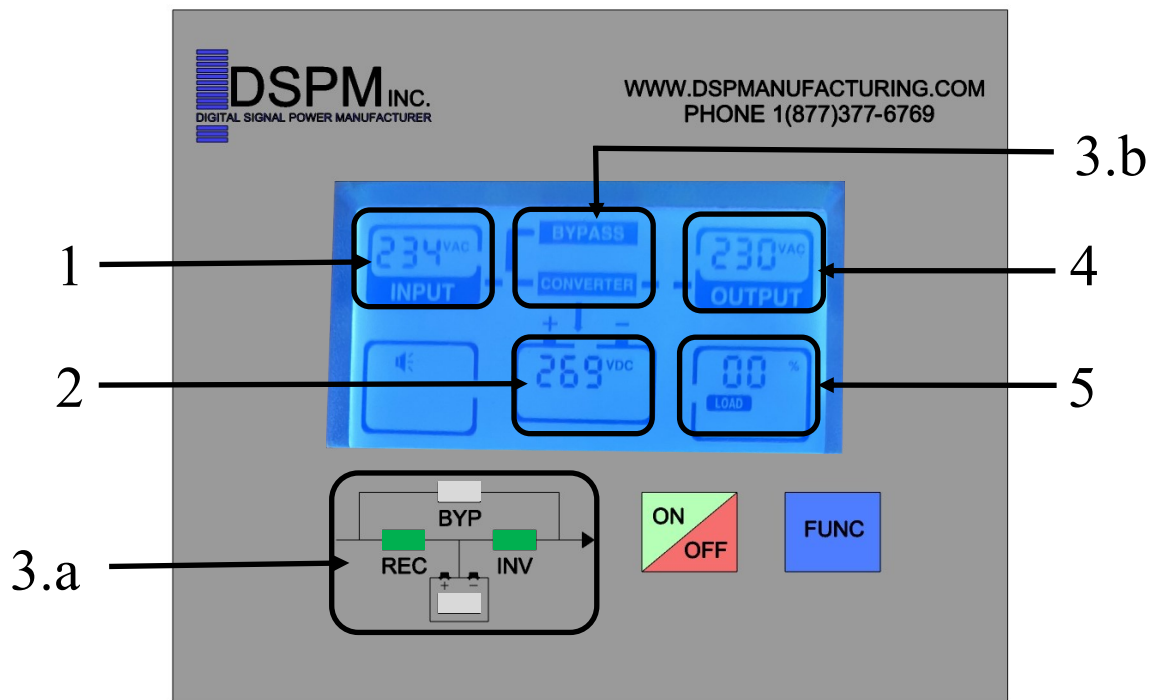

Figure 12
Refer to Figure 12 for descriptions of the Front Panel display's buttons and LCD.
- 8.1.3.2. The Processor perform a series of checks (These checks will be indicated by the display panels (see CH 7 Figure 12).